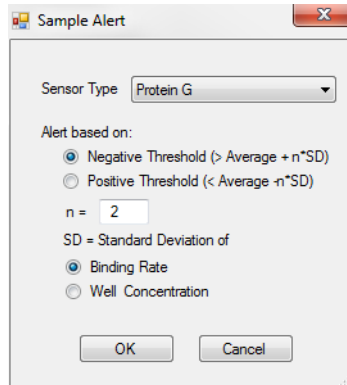

Figure 4-33: Sample Alert Dialog Box
2. Alternatively, set either a positive or negative threshold on the standard deviation of either the binding rate or the calculated well concentration (Figure 4-33).